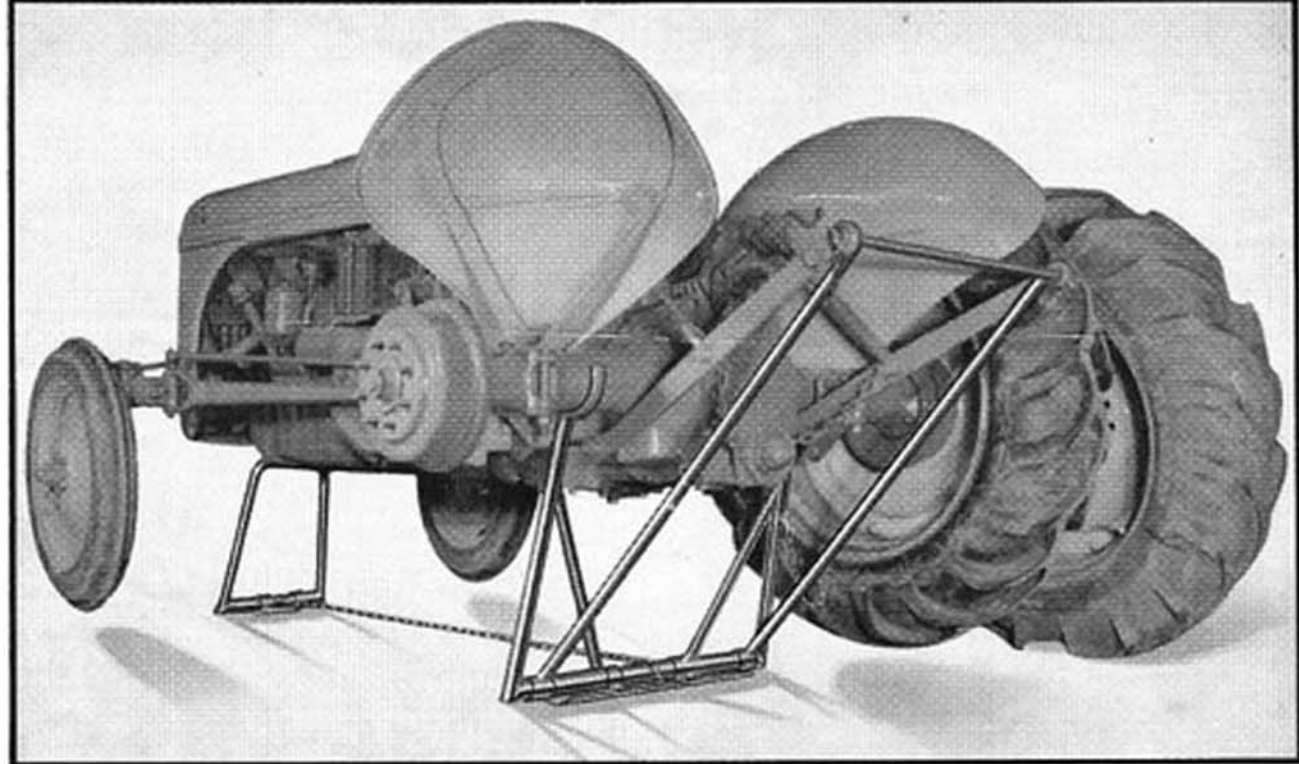

Figure 3
- Step 4. Raise all four wheels by moving the Ford Hydraulic Touch Control lever to the top position. Figure 3 shows tractor raised.